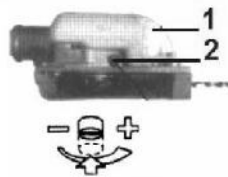

Fig.PP9
2. Place the unit on its side with the oil reservoir up. See Fig.PP9.